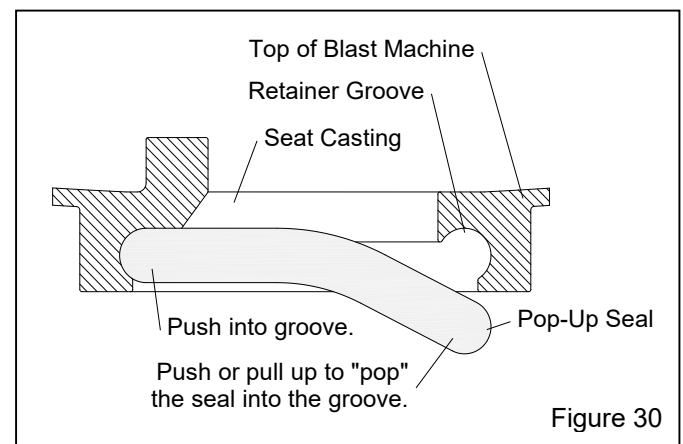

Figure 30
7.9 Replacing Pop-Up Valve Seal – Figure 30